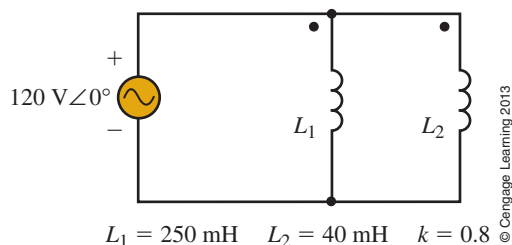

FIGURE 23-82
37. The inductors of Figure 23-82 are mutually coupled. What is their equivalent inductance? If $f = 60 \text{ Hz}$, what is the source current?